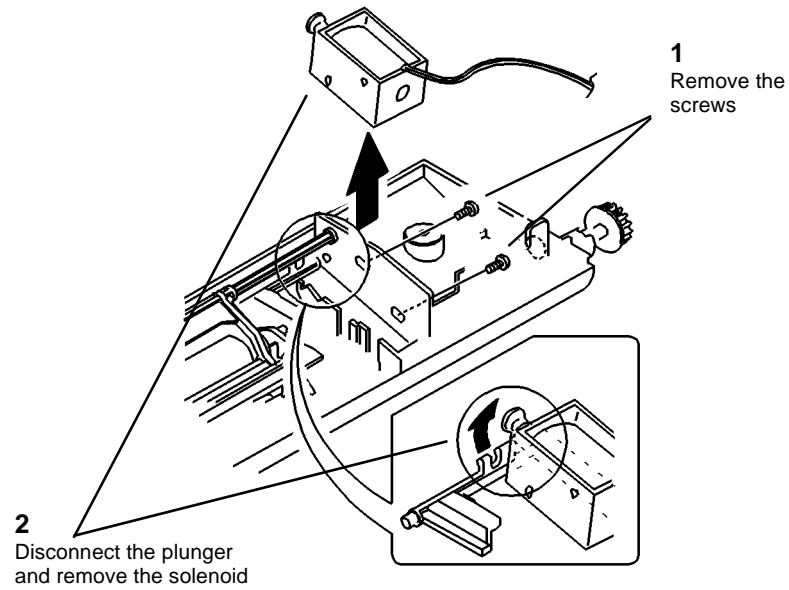

Figure 4 Removing the Feed Solenoid
4. (Figure 4): Remove the Feed Solenoid.